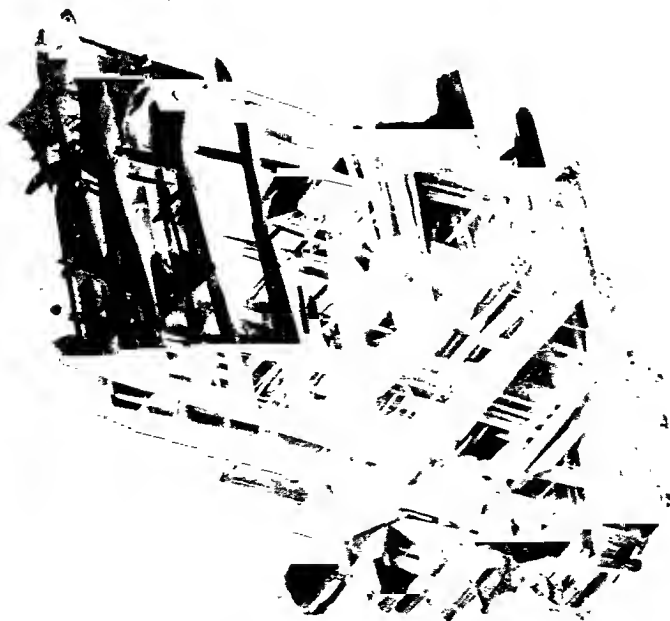

Figure 97. Reticulated Grouping of Cerussite Crystals
**Reticulated grouping.** The Latin word *reticulatus* means "made like a net," so the mineralogist calls such a grouping as that of cerussite, shown in figure 97, a reticulated grouping. It is frequently seen in